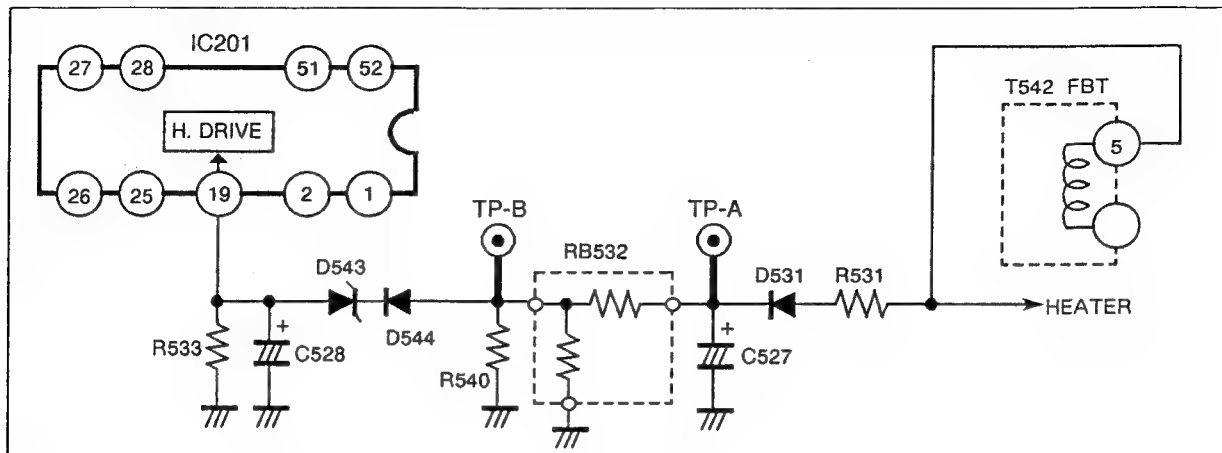

Fig. 1
- After repair of the high voltage hold down circuit shown in Fig. 1, this circuit shall be checked to operate correctly.